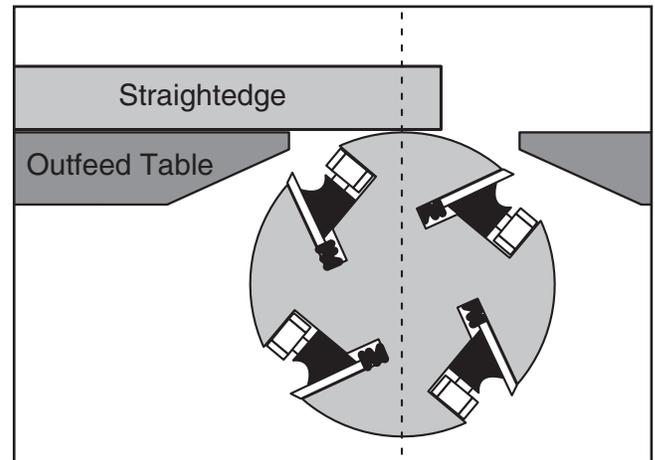

Figure 11. Checking cutterhead parallelism.
22. Using the straightedge and feeler gauge set, inspect the cutterhead parallelism with the outfeed table, as shown in **Figure 11**. With the straightedge in position, raise or lower the outfeed table until the cutterhead body (not the carbide insert) just touches the straightedge.